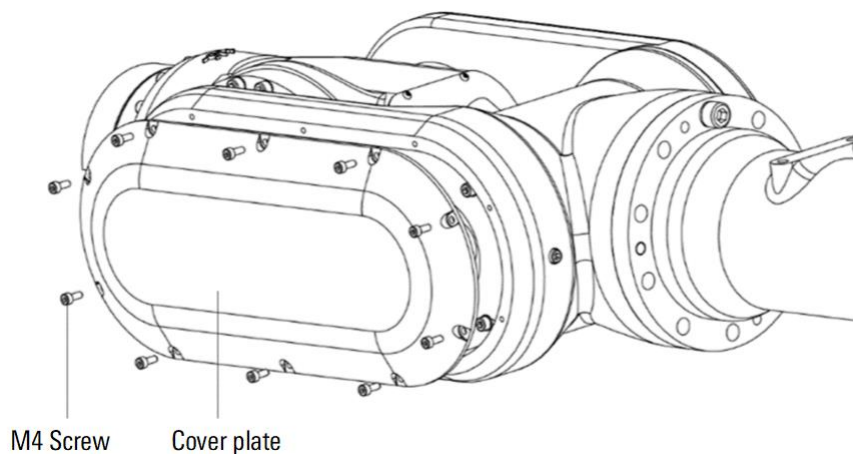

Figure 10-10 Remove the left cover plate
- Step3. Remove the M4 screws from the left sealing cover, as shown in Figure 10-10.